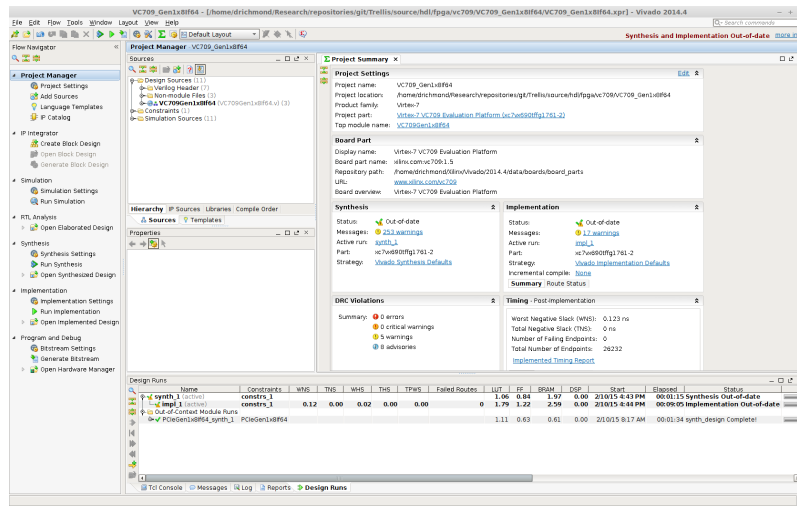
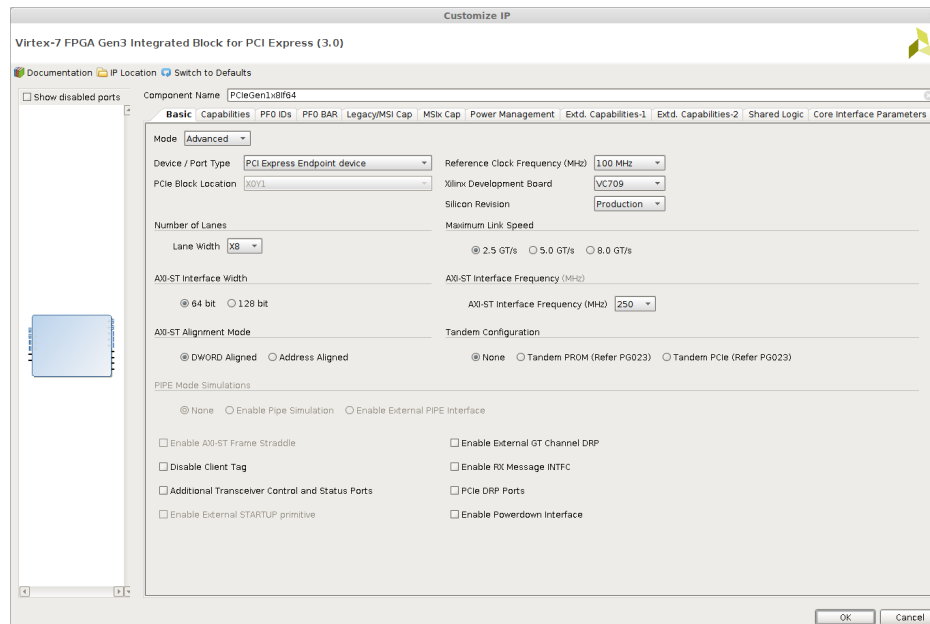

Figure 4.11: Project Splash Screen for Gen3 Integrated Block for PCI Express Projects
Figure 4.12: Basic settings tab.
3. In the RIFFA 2.2.0 distribution, open *RIFFA 2.2.0/source/fpga/xilinx/vc709/* and choose from one of the existing example design directories for your board. In the example design directory, locate the *prj* folder and open it. Select the .xpr file and click open. This will open the example project, as shown in Figure 4.11.
- To recompile the example design, click the generate bitstream button in the top left corner as shown in Figure 4.11.
To generate the PCIe IP select the 7 Series Integrated Block for PCI Express after selecting the IP Catalog shown in Figure 4.11. This will open the IP Customization window as shown in Figure 4.12
Optional: Set the Component Name of the PCI Express block, and the IP Location. In our example projects, we use the name template PCIeGen**W**x**Y**lf**Z** where **W** is the PCI Express Version (**Link Speed** in Figure 4.12), **Y** is the lane width, and **Z** is the AXI interface width. The IP location is the *ip* directory in the example project.
Optional: Set the Component Name of the PCI Express block, and the IP Location. In our example projects, we typically use the name PCIeGen**W**x**Y**if**Z** where **W** is the PCI Express Version (**Link Speed** in Figure 4.12), **Y** is the lane width, and **Z** is the Avalon interface width. The IP location is the *ip/* directory in the example project.